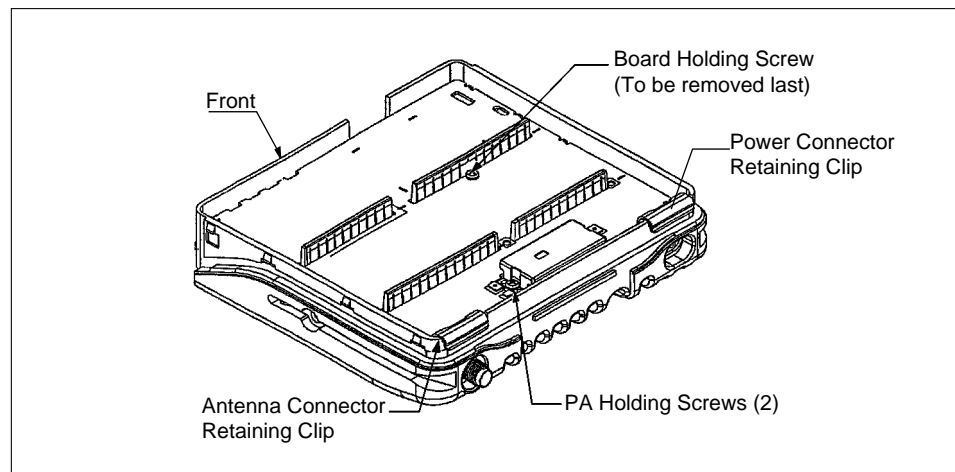

Figure 5-8 Removing the Transceiver Board (800 MHz and 900 MHz only)
5. Carefully remove the transceiver board by rotating it out of the chassis. Slowly lift the board on the front edge while pushing up on the board through the accessory connector opening (see Figure 5-8).